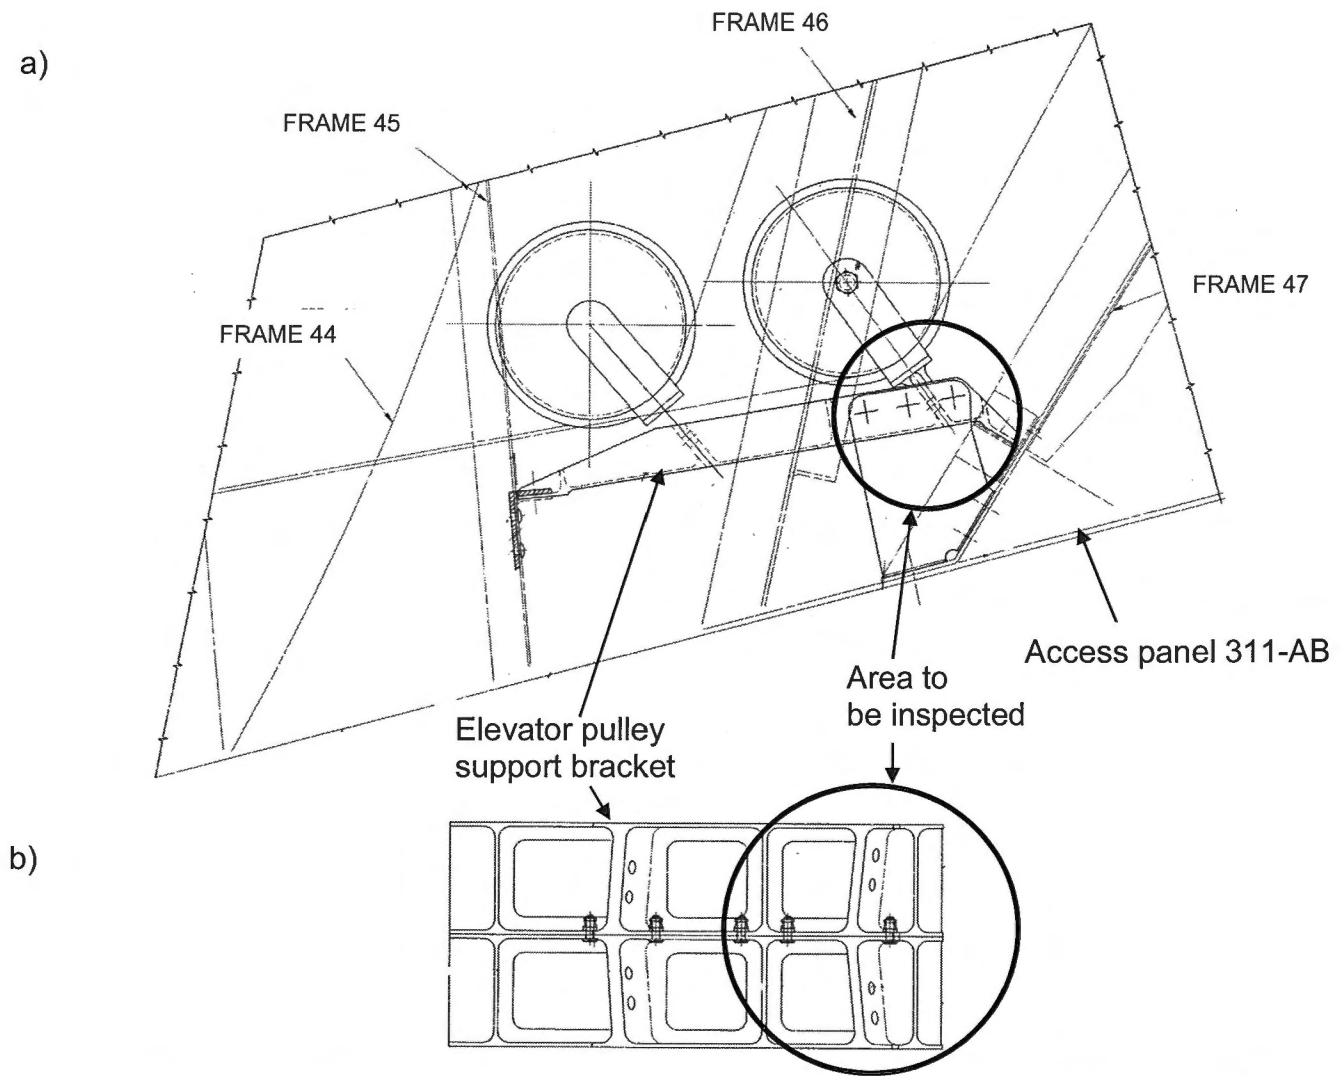

Figure 1: Elevator pulley support brackets in a) installation and in b) Assembly without pulleys
Visual inspection equipment, see NTM 51-25-90, flash light or other suitable light source, mirror, flexible endoscope (if required to gain full inspection coverage of the area, see figures 1 and 2)
- (1) Perform a detailed visual inspection according to NTM 51-25-90 for any signs of corrosion and cracks on elevator pulley support brackets and mating parts, see fig. 1 for concerned area. Use appropriate light source, mirror and/or flexible endoscope for inspection from the bottom side.